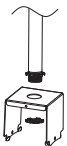

Figure 3
- Step1. Mount the bracket on 3/4"NPT (Figure 3);